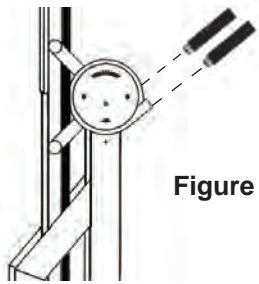

Figure 4
- Remove the caps from arms and screw the handles into the arms on both sides of the Bed Frame Assembly. (See Figure 4)